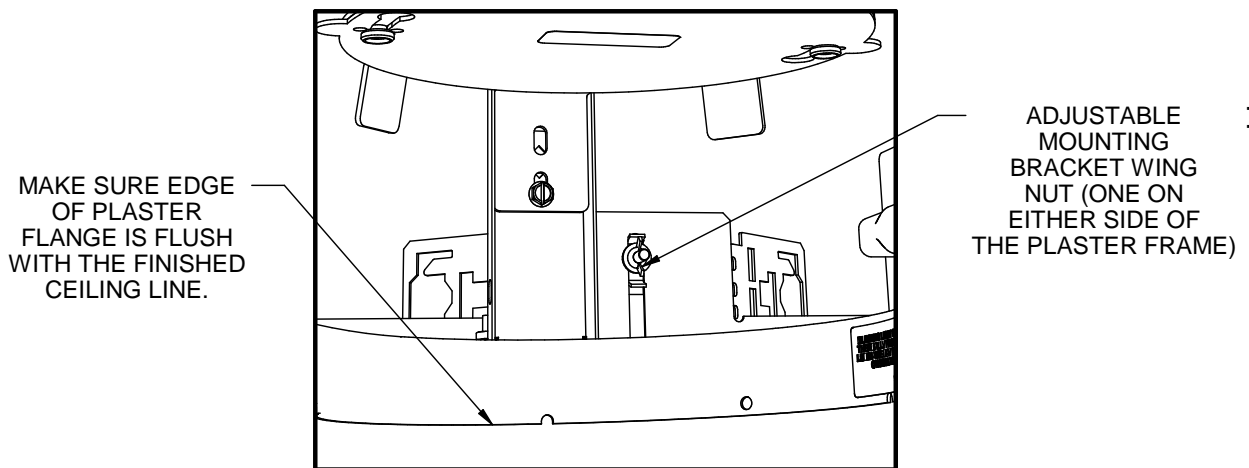

FIG. 2
3. Adjust the fixture vertically by loosening the wing nuts on the adjustable mounting brackets on either side of the fixture. **Important - adjust the fixture height so the bottom of the plaster flange is flush with the finished ceiling line** and in alignment with adjacent fixtures. (See FIG. 2) Once adjusted correctly, lock the adjustable mounting brackets by securely retightening both wing nuts.